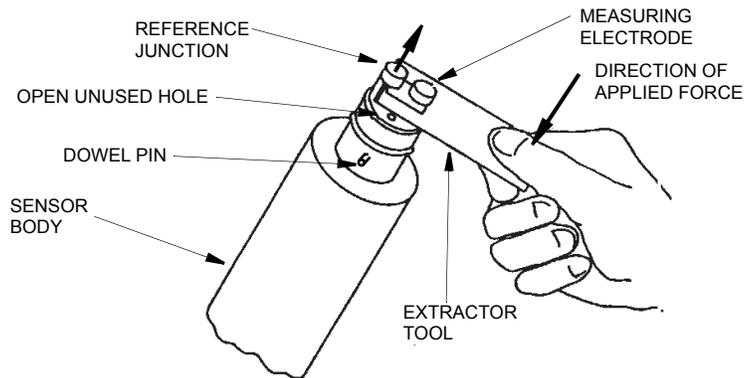

Figure 1. Removing Reference Junction
3. Slide the extractor tool (beveled edges up) into position as shown in Figure 1. Note that the edges fit into the reference junction retaining slot.